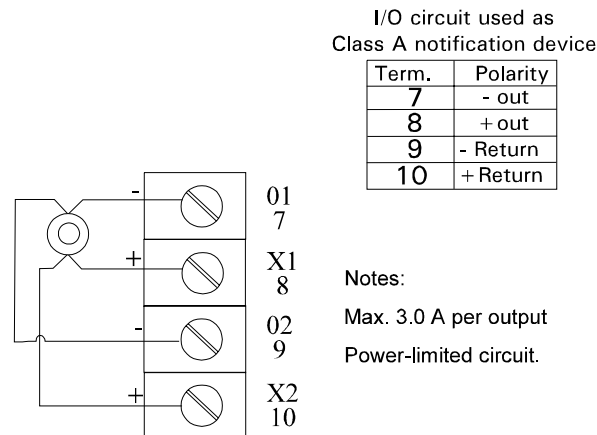

Figure 3-14. I/O circuit used for Class A notification devices
1. Wire as shown in Figure 3-14.